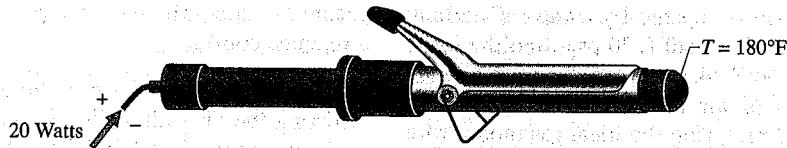

Fig. P6.55
6.55 At steady state, the 20-W curling iron shown in Fig. P6.55 has an outer surface temperature of 180°F . For the curling iron, determine the rate of heat transfer, in Btu/h , and the rate of entropy production, in $\text{Btu}/\text{h}\cdot^\circ\text{R}$.